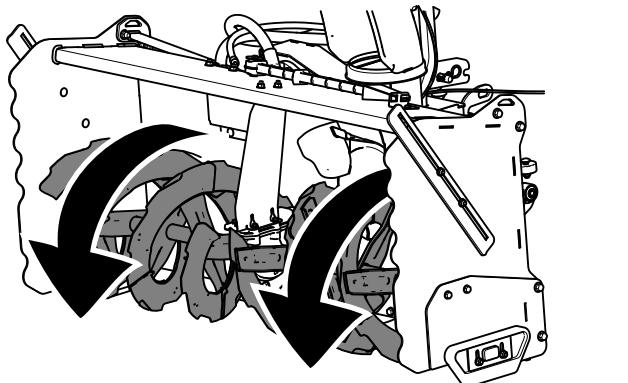

Figure 22
**Note:** The auger should spin counterclockwise when viewed from the left side from the operating position (Figure 22). If the auger spins in the wrong direction, switch the couplers on the hydraulic hoses connected to the High Flow Kit.